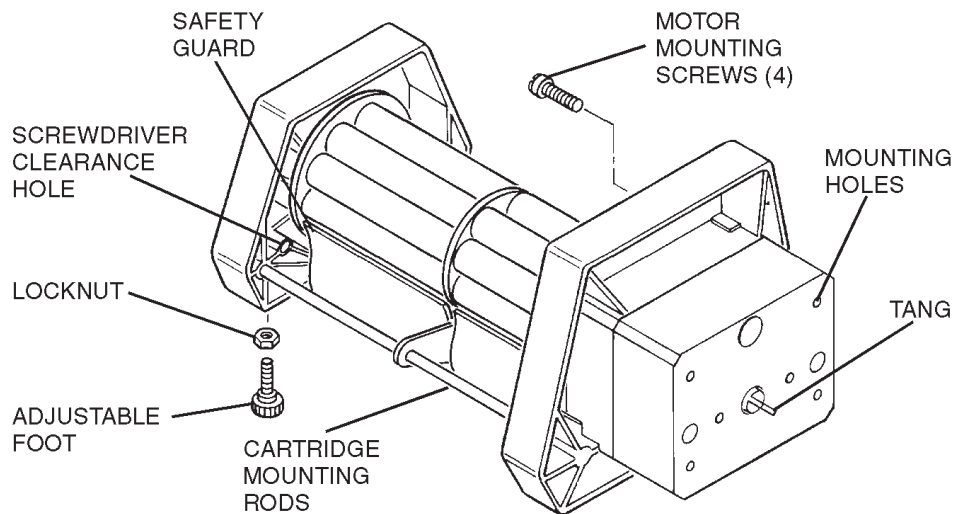

FIGURE 2 PUMP MOUNTING
1. Connect the Pump to Drive by aligning the tang on Pump Head (see Figure 2) with the slot in the motor Drive shaft.